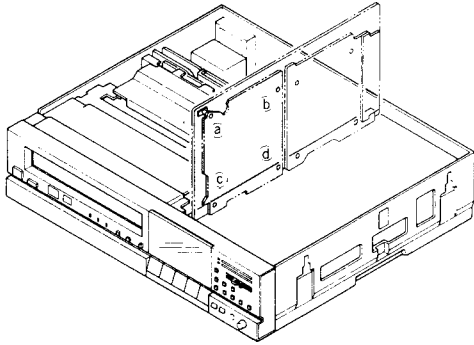

Fig. 2-6
- 2) Unlock the four PCB supports (a, b, c and d) retaining the PCB Hi-Fi as shown in Fig. 2-6.